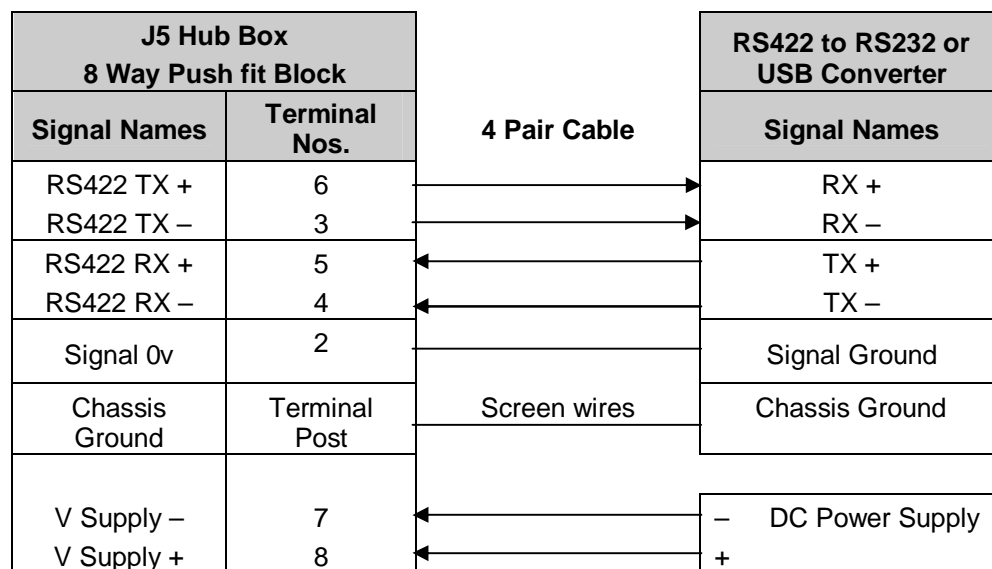

Figure 7 RS422 connections
- RS422                                  Figure 7